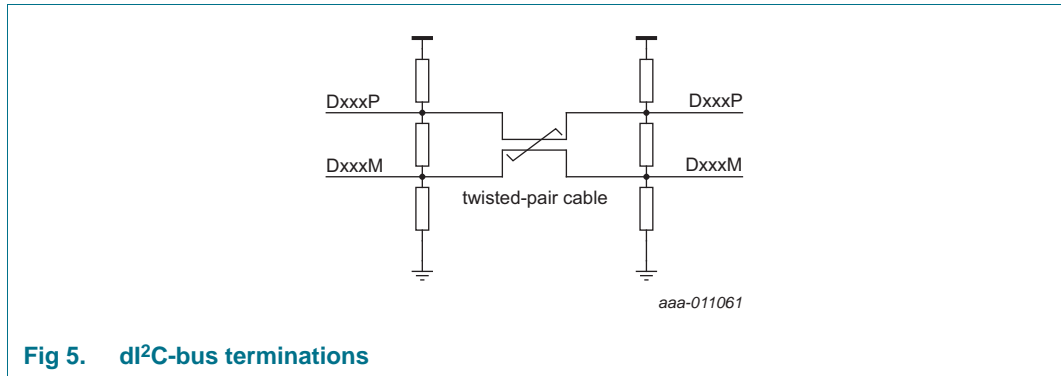

Fig 5. dI2C-bus terminations
The dI2C-bus is also biased to an idle state (D+ more positive than D-) to be compatible with the I2C-bus/SMBus wired-OR scheme, when not transmitting traffic (data). This allows every node to receive broadcast messages from the Master, and return ACK/NACK and data in response. Biasing is done with additional resistors, connected to VDD(B) and VSS (the local ground), as shown in Figure 5. The transmission line is terminated in the characteristic impedance of the cable, typically 100 Ω. This is the value defined by three resistors, the other two resistors providing the idle condition bias to the twisted pair.